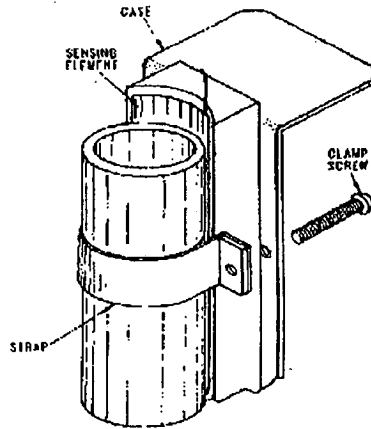

Fig. 5 – Skeleton view of control case, temperature sensing element, and mounting strap.
2. Remove the cover from the control and fasten threaded flange of the strap to the control case using only 3 or 4 threads of mounting screw (See Fig. 5). Place control on pipe, wrap strap around pipe and place slot in strap over tab on right side of case. Tighten the strap screw to a snug fit. Clip off or bend back excess strap outside the cover of the control.